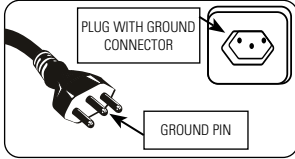
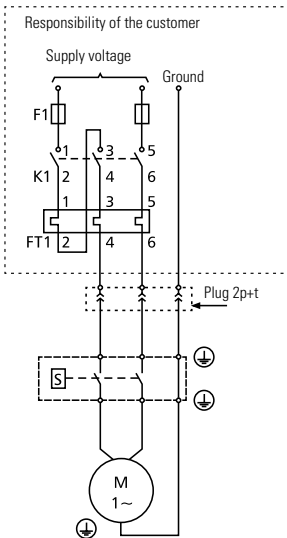

FIGURE 7.1 - PLUG AND POWER OUTLET CONNECTION (SINGLE PHASE)
FIGURE 7.2- SINGLE-PHASE ELECTRICAL CONNECTION SCHEME (MOTOR WITHOUT THERMAL PROTECTION)
- Consult a specialized technician to evaluate the general conditions of the electrical network and select the proper electrical devices for supply, connection (Figure 7.1) and protection.
- The electrical wires must be dimensioned according to the motor power, electrical network voltage and distance from the energy source (orientations in Table 7.1) to the motor, connected to the voltage (V), as indicated on the tag on the electric motor or power cord.
- For safety and warranty of the electric motor, the orientation on Figure 7.2 must be followed. The non-compliance might cause the motor to burn out and warranty loss.